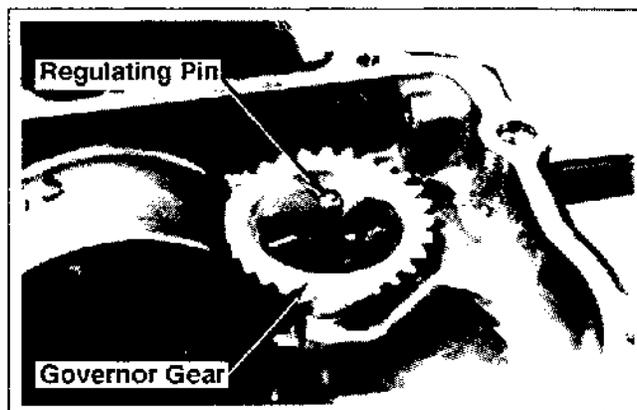

Figure 9-48. Removing Governor Gear.
4. If necessary, remove the governor gear and regulating pin. See Figure 9-48.